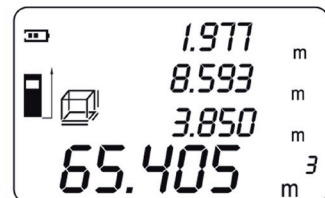

Fig. 14
7. Press the Read button again to display the volume on the bottom line of the screen; the height is simultaneously displayed on the third line (fig. 14).